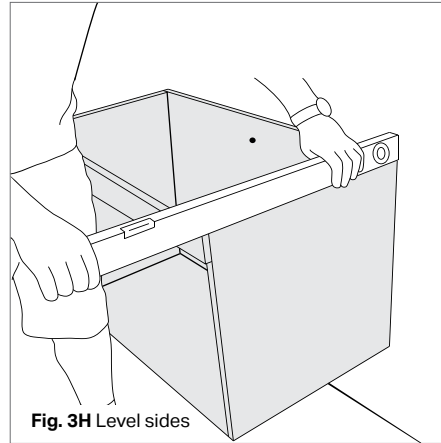

Fig. 3H Level sides
- Level sides (Fig. 3H)
Before you start check your spacer kit is complete. (**Fig. 3H**)